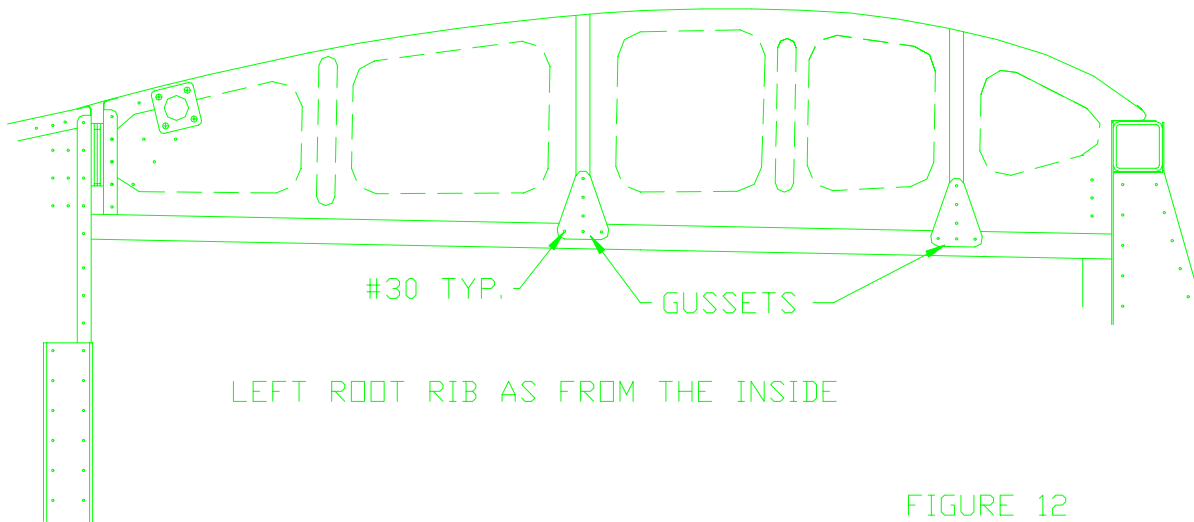

FIGURE 12
47) Make gussets from RAWST-10 to tie cabin top bulkheads to root rib channels. Figure 12. Rivet with 1/8 avex rivets